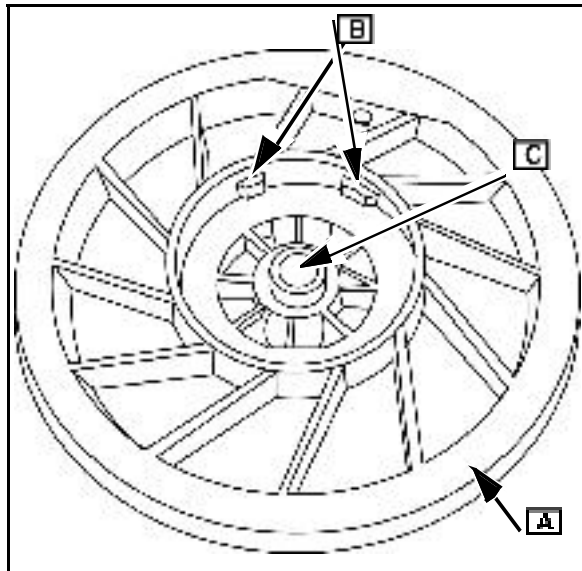

Fig. 14
1. Inspect starter pulley for cracks, rough edges, wear or burrs in pulley groove (A), wear on spring cup lugs (B) and center hole ([C] Fig. 14). Replace pulley if damaged or worn.